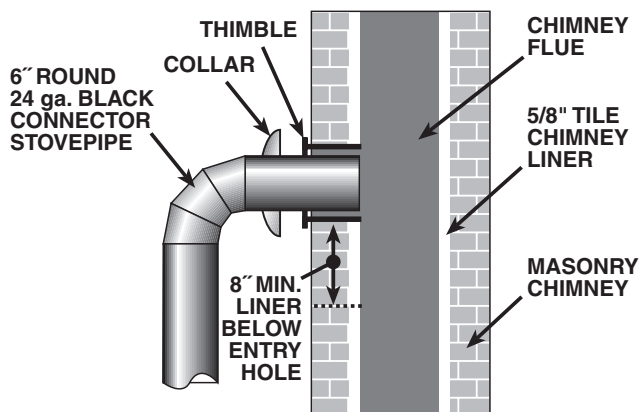

Fig. 4 - Masonry Chimney Connection
Your stove itself does not create draft. Draft is provided by the chimney. To achieve proper draft your chimney must meet the three minimum height requirements detailed in figures 4–7. A minimum of 0.05 w.c. (measured in water column) is required for proper drafting to prevent back puffing, smoke spillage, and to maximize performance. (Gauges to measure draft are readily available at stove stores and are economical to rent or purchase.)
Before using an existing masonry chimney, clean the chimney, inspect the flue liner and make any repairs needed to be sure it is safe to use. Make repairs before attaching the stove. The connector stove pipe and fittings you will need to connect directly to a masonry chimney are shown in figure 4.
2. Install a metal or fire clay (5/8” minimum thickness) thimble. Make sure the thimble is flush with the inner surface of the chimney liner and does not protrude into the flue (see figure 4 on page 6).
4. Install the stovepipe into the thimble as far as possible without extending past the flue lining (see figures 4 on page 6).